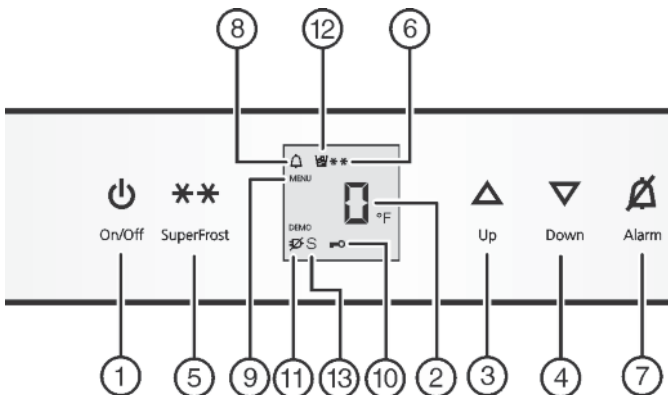

Fig. 2
- ▶ Press On/Off button Fig. 2 (1).
- ▶ Activate setting mode: Press SuperFrost button Fig. 2 (5) for about 5 seconds.
- ▷ The Menu symbol Fig. 2 (9) lights up.
- ▶ Using Up button Fig. 2 (3) / Down button Fig. 2 (4) select °.
- ▶ To confirm: Briefly press SuperFrost button Fig. 2 (5).
- ▶ Using Up button Fig. 2 (3) / Down button Fig. 2 (4) select °F or °C.
- ▶ To exit setting mode: Press On/Off button Fig. 2 (1).
- ▶ Activate setting mode: press and hold the SuperFrost button Fig. 2 (5) for approximately 5 s.
- ▷ The Menu symbol *Fig. 2 (9)* lights up.
- ▶ Using the Up button *Fig. 2 (3)* or Down button *Fig. 2 (4)*, select **c**.
- ▶ Press the SuperFrost button *Fig. 2 (5)* briefly to confirm.
- ▶ To switch on the child-proof lock, press the SuperFrost button *Fig. 2 (5)* briefly.
- ▷ The Child safety symbol *Fig. 2 (10)* lights up. **c** flashes on the display.
- ▶ To switch off the child-proof lock, press the SuperFrost button *Fig. 2 (5)* briefly.
- ▷ The Child safety symbol *Fig. 2 (10)* goes out. **c** flashes on the display.
- ▶ Deactivate setting mode: press the On/Off button *Fig. 2 (1)*.
- ▶ Press Alarm button *Fig. 2 (7)*.
At the same time, the Alarm symbol *Fig. 2 (8)* will flash.
The audible warning automatically ceases, the Alarm symbol *Fig. 2 (8)* goes out, and the temperature display stops flashing when the temperature is cold enough again.
- ▶ To activate setting mode: Press and hold the SuperFrost button *Fig. 2 (5)* for approx. 5 s.